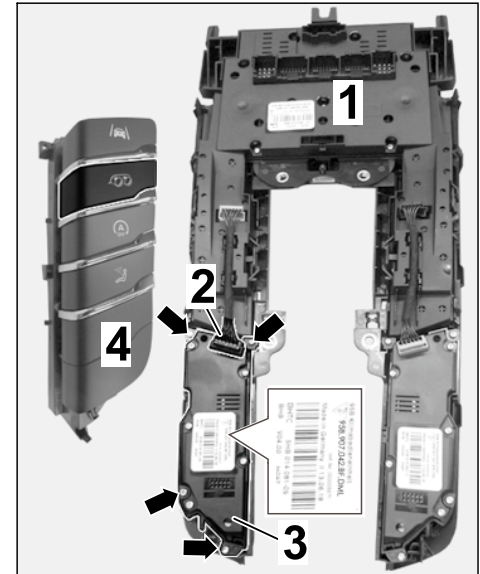

Figure 45
4.2 Replace button module at the right (⇒ *Figure 45*)
4.2.2 Remove screws (⇒ *Figure 45 -Arrows-*).